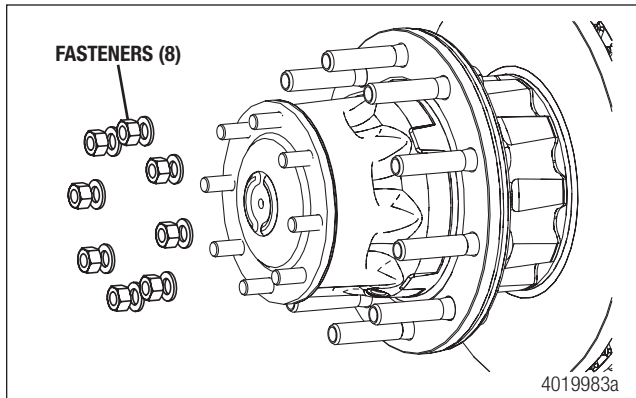

Figure 4
- c. Remove the eight nuts and washers from the axle shaft. Figure 4.